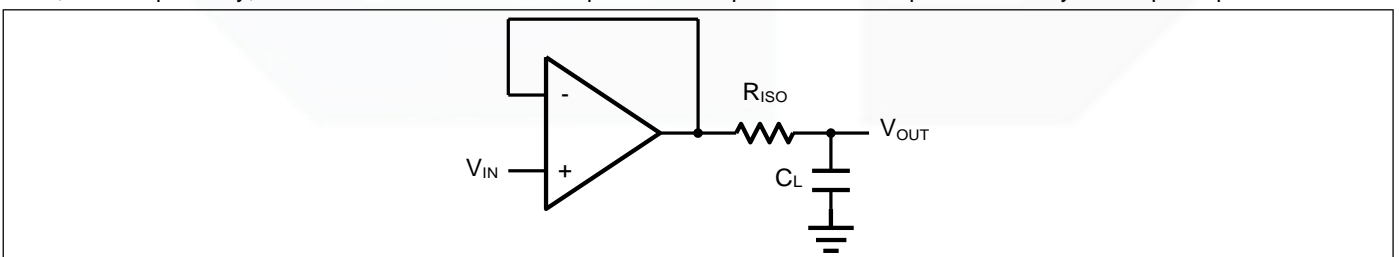
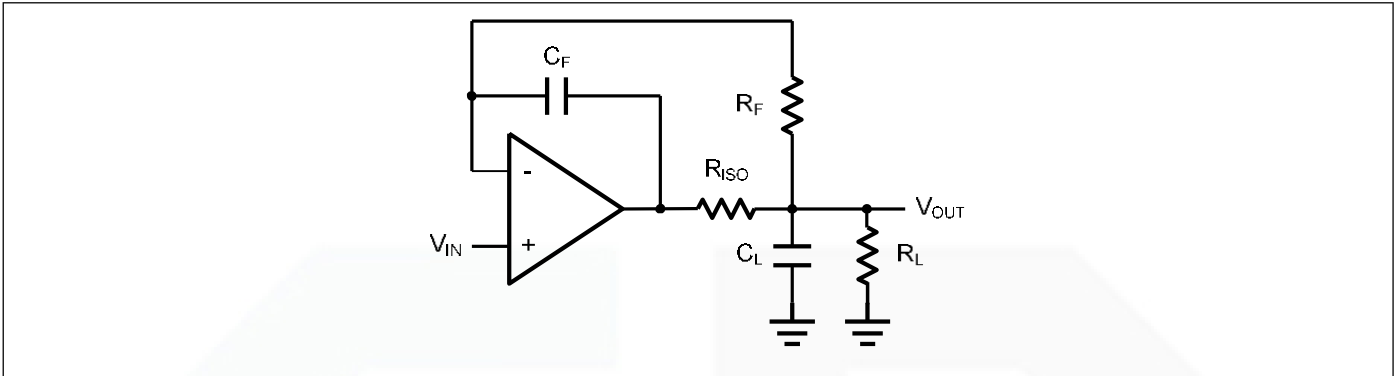

Figure 2. Indirectly Driving a Capacitive Load Using Isolation Resistor
Figure 3. Indirectly Driving a Capacitive Load with DC Accuracy
The MA805X family is optimized for bandwidth and speed, not for driving capacitive loads. Output capacitance will create a pole in the amplifier's feedback path, leading to excessive peaking and potential oscillation. If dealing with load capacitance is a requirement of the application, the two strategies to consider are (1) using a small resistor in series with the amplifier's output and the load capacitance and (2) reducing the bandwidth of the amplifier's feedback loop by increasing the overall noise gain. Figure 2. shows a unity gain follower using the series resistor strategy. The resistor isolates the output from the capacitance and, more importantly, creates a zero in the feedback path that compensates for the pole created by the output capacitance.
The circuit in Figure 3 is an improvement to the one in Figure 2. R_F provides the DC accuracy by feed-forward the V_{IN} to R_L . C_F and R_{ISO} serve to counteract the loss of phase margin by feeding the high frequency component of the output signal back to the amplifier's inverting input, thereby preserving the phase margin in the overall feedback loop. Capacitive drive can be increased by increasing the value of C_F . This in turn will slow down the pulse response.